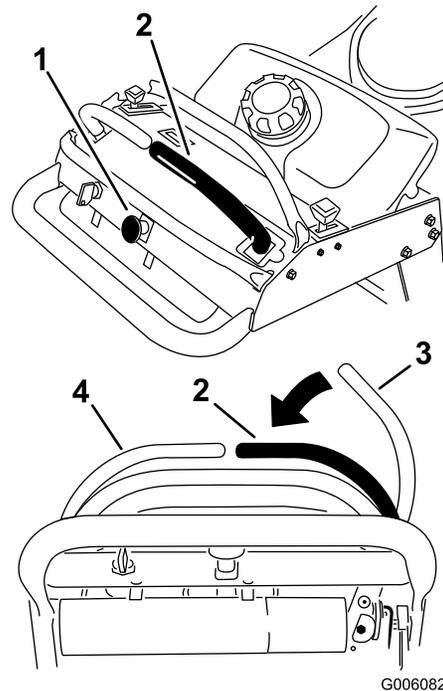

Figure 9
- To engage the mower blades, move the right side motion control lever to the center, un-locked position (Figure 9).